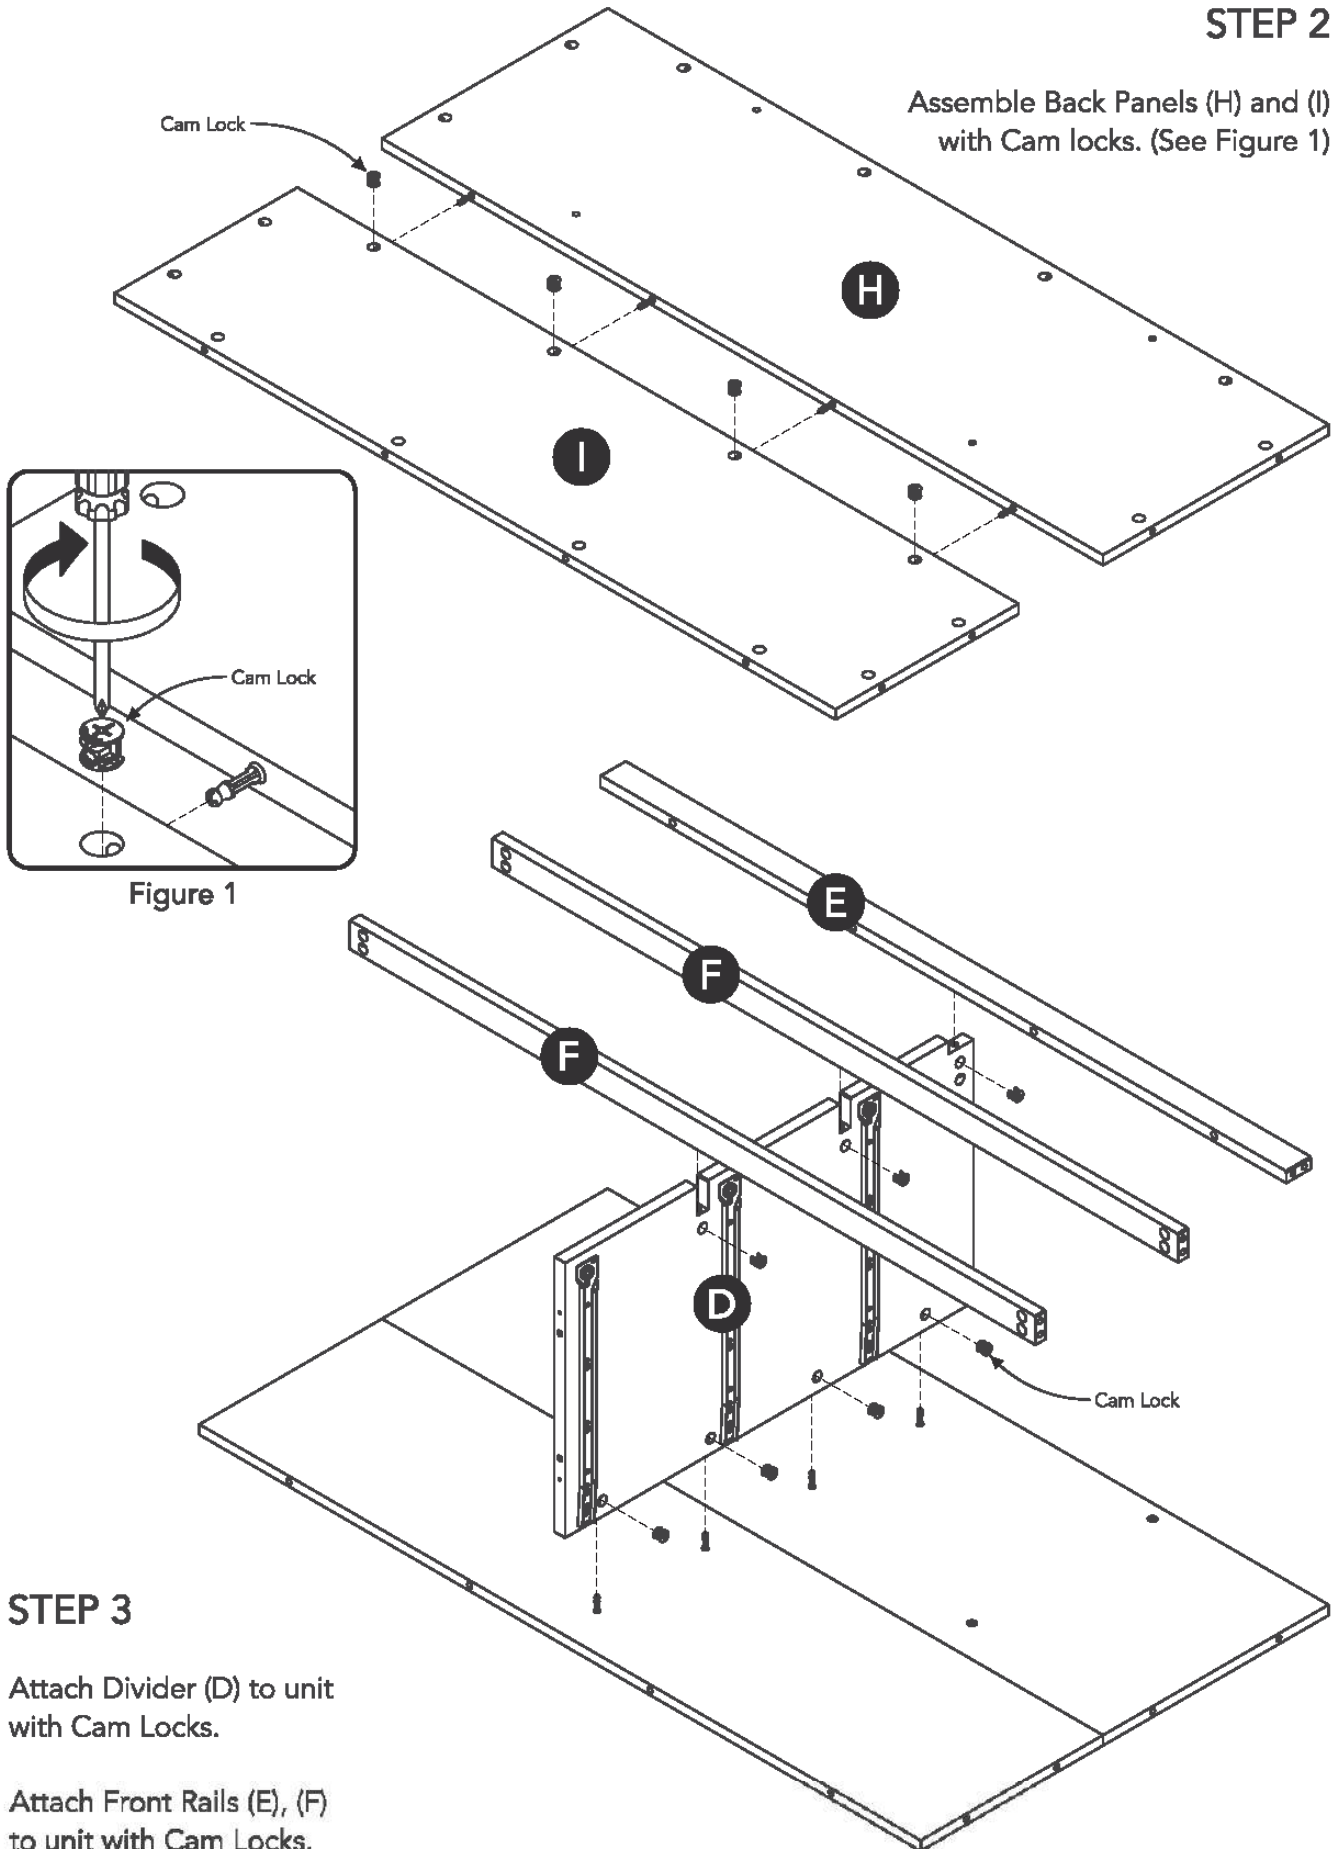

Figure 1
Assemble Back Panels (H) and (I) with Cam locks. (See Figure 1)